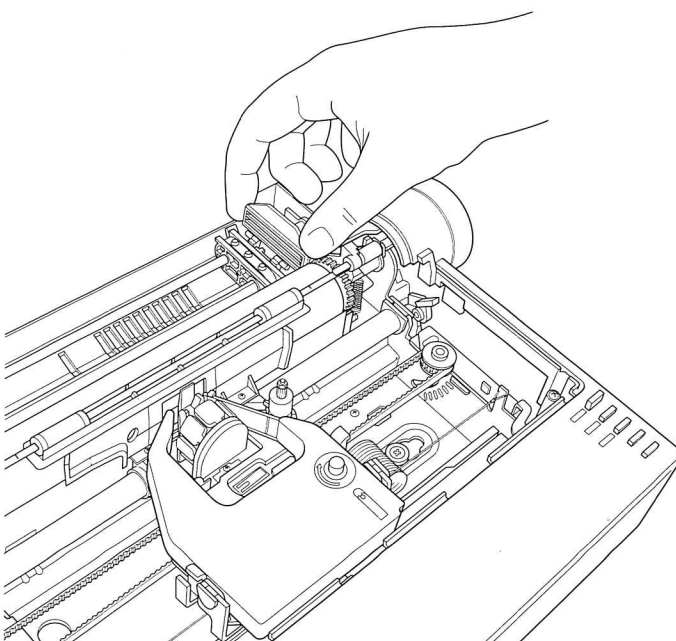

Figure 2-11 Opening a paper clamp
3. **Flip open both paper clamps** by lifting them in an outward direction. The clamps should spring into an upright position. (See Figure 2-11.)